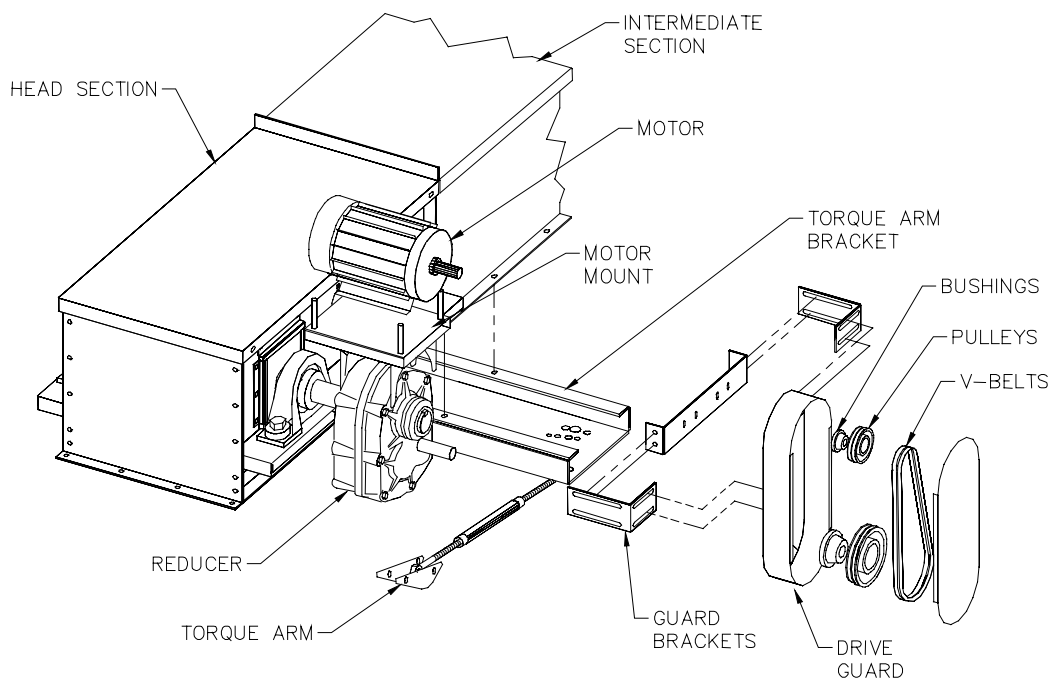

Figure 2-8A, Typical Shaft Mount Drive Installation
Refer to the certified drawing and the equipment quotation for details of the drive components, if supplied. Drive components furnished can vary from simply providing an extended and keyseated head (drive) sprocket shaft to a complete drive. For purposes of explanation, the installation of a Dodge Shaft Mount Torque Arm reducer will be discussed. Installation of other reducer brands are very similar, differing only in minor details. Refer to **Figure 2-8A**. Save and refer to the manufacturer's data supplied with the reducer. The reducer has a hollow output shaft. Tapered bushings in the output shaft seat the reducer on the conveyor head shaft. The input shaft faces away from the conveyor. The reducer should be positioned close to the head shaft bearing while leaving sufficient clearance to tighten and loosen the screws that draw the tapered bushings tight on the head shaft.
- A. Attach torque arm bracket to trough bottom directly behind head (See **Figure 2-8A**).
- D. Refer to **Figure 2-8A**. Assemble the torque arm clevis bracket to the torque arm eye bolt.